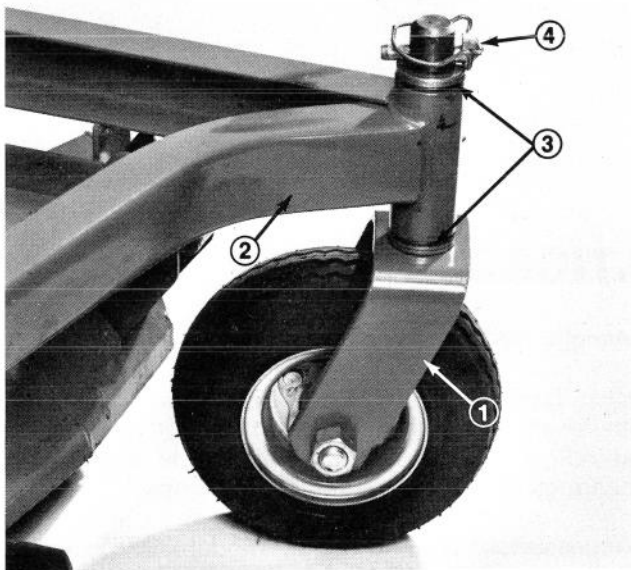

Figure 1
1. Place two thrust washers on each castor wheel shaft (Fig. 1).
2. Insert shafts into carrier frame. Install two more thrust washers and secure with lynch pins (Fig. 1).